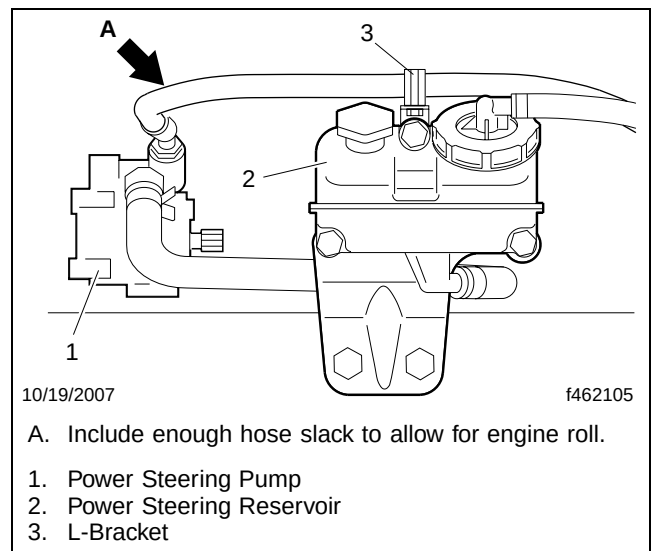

Fig. 8, Hose Routing To Pump (S60 Shown)
41. Install and route the new pressure line from the frame-mounted hose bracket to the pump, and include extra hose between the L-bracket on the top-mount of the reservoir and the pump to allow for engine roll. See **Fig. 8**. Tighten the fitting 42 to 52 lbf·ft (57 to 70 N·m).
44. Using hose clamps, install the new power steering pump suction line on the reservoir and pump. See **Fig. 8**.